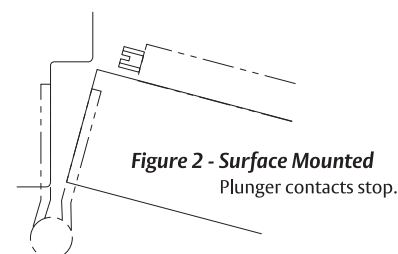

Figure 2 - Surface Mounted
3. Place the ADB so that the plunger contacts the stop (see Figure 2).